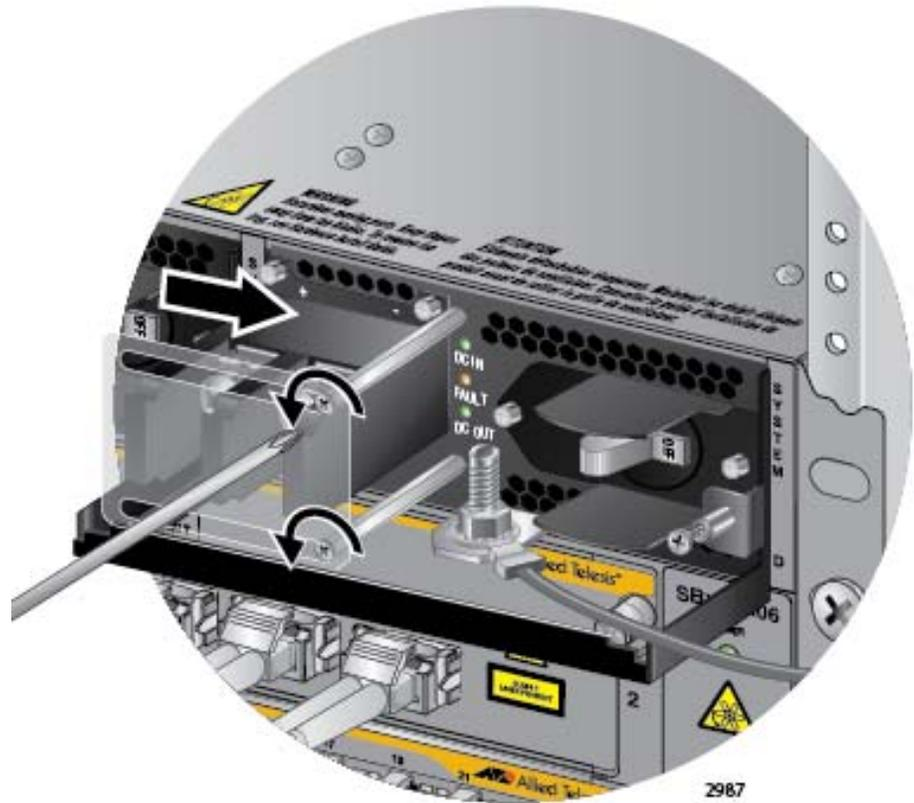

Figure 116. Opening the Plastic Cover
4. Use a #1 Phillips-head screwdriver to loosen the two screws on the plastic cover over the positive and negative terminals on the power supply and slide the cover to the right, as shown in Figure 116 on page 161. You may need to slightly lift the locking handle to access the bottom screw.
2. Use a #1 Phillips-head screwdriver to loosen the two screws on the plastic cover over the positive and negative terminals on the power supply and slide the cover to the right, as shown in Figure 116 on page 161. You may need to lift the locking handle slightly to access the bottom screw.